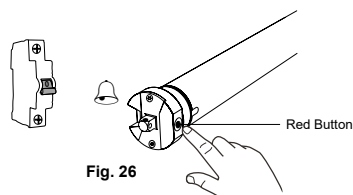

Fig. 26
- Within **15 seconds**, press the **red button** on the motor **once** (Fig. 26), a beep sounds once.